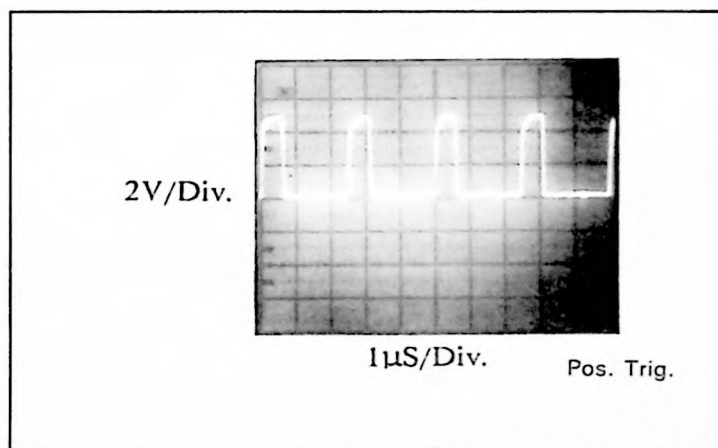

Figure 7-D-1. ALE at JM505
c. Make sure ALE at JM505 is good as shown in Figure 7-D-1. If the signal is missing or incorrect, make sure the microprocessor's clock, U501(pins 2 and 3) is 6MHz. If the clock signal is missing or wrong, try replacing the crystal Y501. If the signal is still wrong, replace U501.